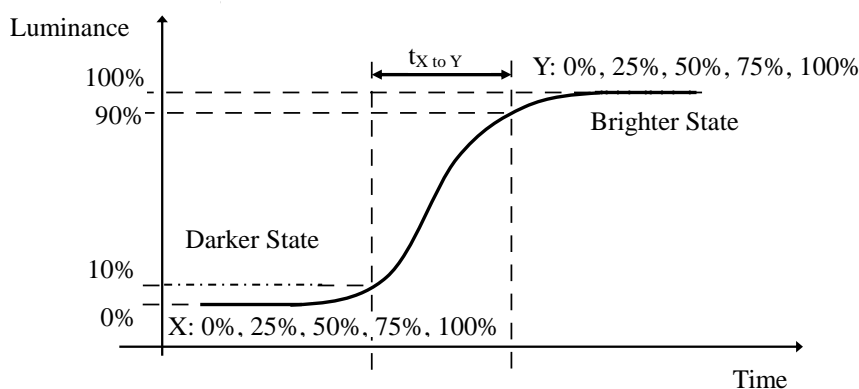

Fig. 6.4 The definition of  $t_{X \text{ to } Y}$
(3) Response time  $T_L$  is defined as the average transition time in the response time matrix. The table below is the response time matrix in which each element  $t_{X \text{ to } Y}$  is the transition time from luminance ratio  $X$  to  $Y$ .  $X$  and  $Y$  are two different luminance ratios among 0%, 25%, 50%, 75%, and 100% luminance. The transition time  $t_{X \text{ to } Y}$  is defined as the time taken from 10% to 90% of the luminance difference between  $X$  and  $Y$  ( $X < Y$ ) as illustrated in Fig.6.4. When  $X > Y$ , the definition of  $t_{X \text{ to } Y}$  is the time taken from 90% to 10% of the luminance difference between  $X$  and  $Y$ . The response time is optimized on refresh rate  $F_r = 60\text{Hz}$ .